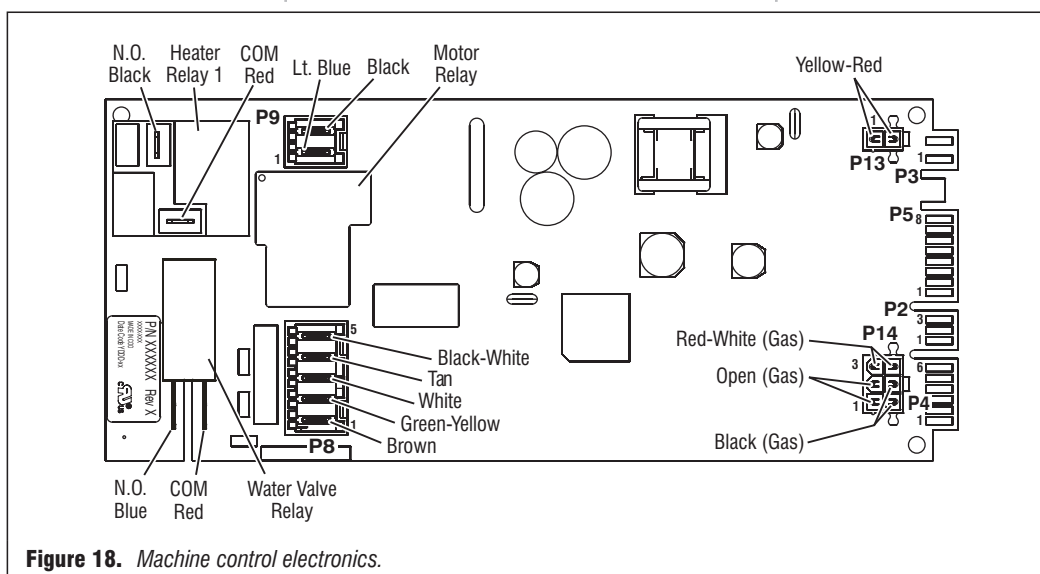

Figure 18. Machine control electronics.
1. Perform steps in Accessing & Removing the Electronic Assemblies, at right, and check that the wires are connected to the water valve relay on the machine control electronics. See figure 18, page 10.
- Remove all the wire connections to the machine control electronics. See figure 18.